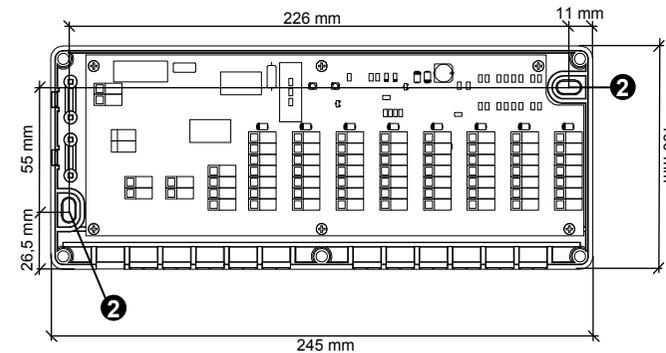

Fig. 2: Internal view and parts
- Fix the device base to the wall by using the two screw holes labelled 2 in Fig. 2.